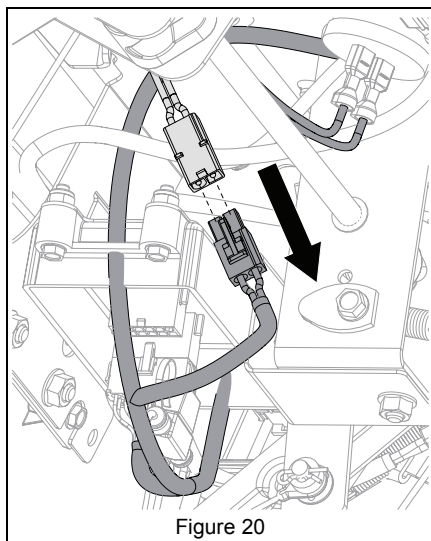

Figure 20
1. Disconnect battery connector. See Figure 20.
4. Reconnect battery connector when battery is ready for use. See Figure 20.